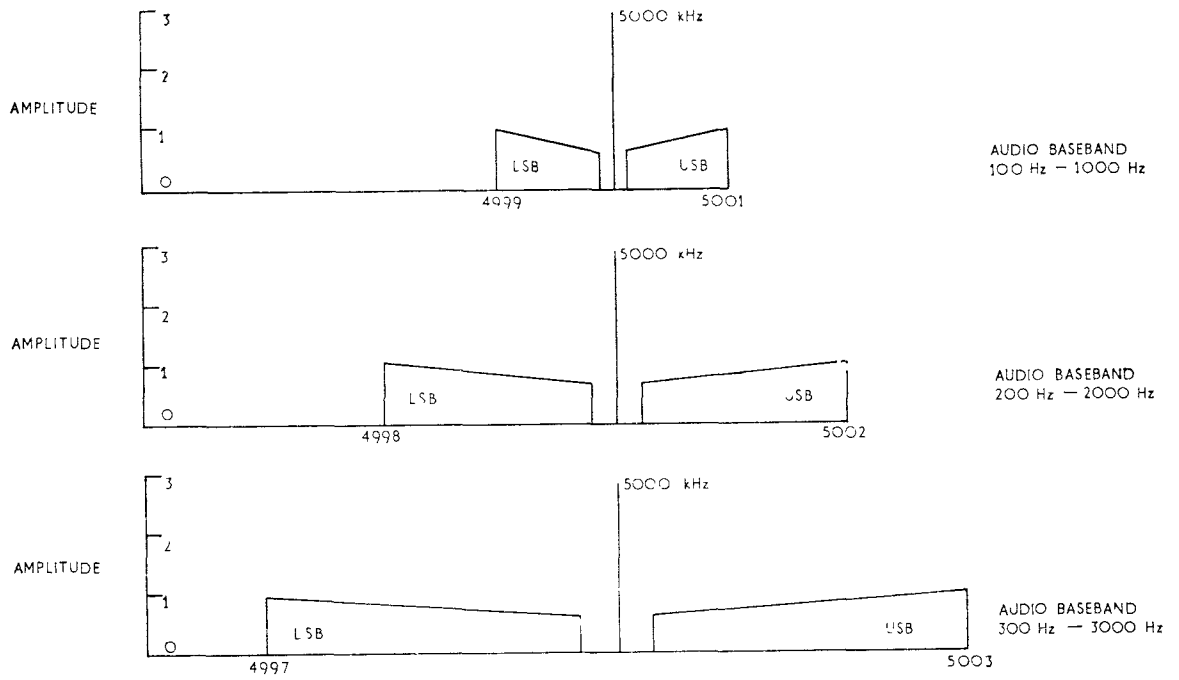

FIG. 1. BASEBAND - BANDWIDTH RELATIONSHIP
a. From Fig. 1, it should be apparent that a double-sideband voice emission consists of the radio frequency carrier and two bands of radio frequencies located either side of it. These represent the original audio baseband and are identified as the upper sideband or the lower sideband.
b. Careful study of Fig. 1 will reveal two of the principal reasons why double sideband transmissions have been supplanted by more efficient techniques, namely: